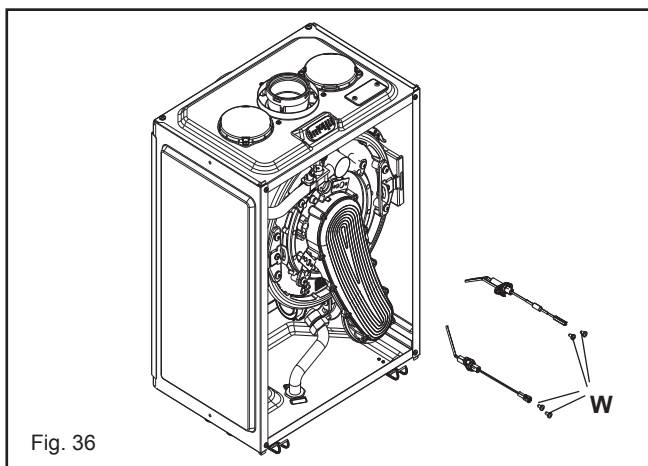

Fig. 36
6.13 ELECTRODES & CONDENSE SENSOR (fig. 36)
Carry out component removal procedure as described in 6.4. Unclip and remove the air chamber front and the RH side covers. Slacken the gas pipe (**A1**) at the air box connection and swing/rotate of the fan assembly. Locate and remove the 3 internal nuts (**F1**) which secure the fan assembly in position to the heat exchanger (**G1**). Disconnect the electrode leads and ancillary wiring from their respective connectors. Remove the retaining screws (fig. 36) for sensing electrode and remove. Gently ease the fan assembly out of its location. Once the assembly has been removed, the burner (**H1**) can be withdrawn from the heat engine. Ensure the seal (**I1**) is in good condition, taking care to ensure it is replaced correctly. Replace in the reverse order.
Carry out component removal procedure as described in 6.4. Unclip and remove the three air chamber covers (front, LH, RH sides). Disconnect all the wiring connections. Fig. 36: Slacken the gas pipe (L1) at the air box connection and swing/rotate of the fan assembly. Disconnect the flow (M1), return (N1) and condense connections on the heat exchanger. Remove fan and mixer as described in 6.14. Locate and remove the 2-screws that secure the heat exchanger retaining clips and remove clips (O1). Pull the heat exchanger forward and disconnect it from the flue collector (P1). The heat exchanger can now be withdrawn from the appliance.